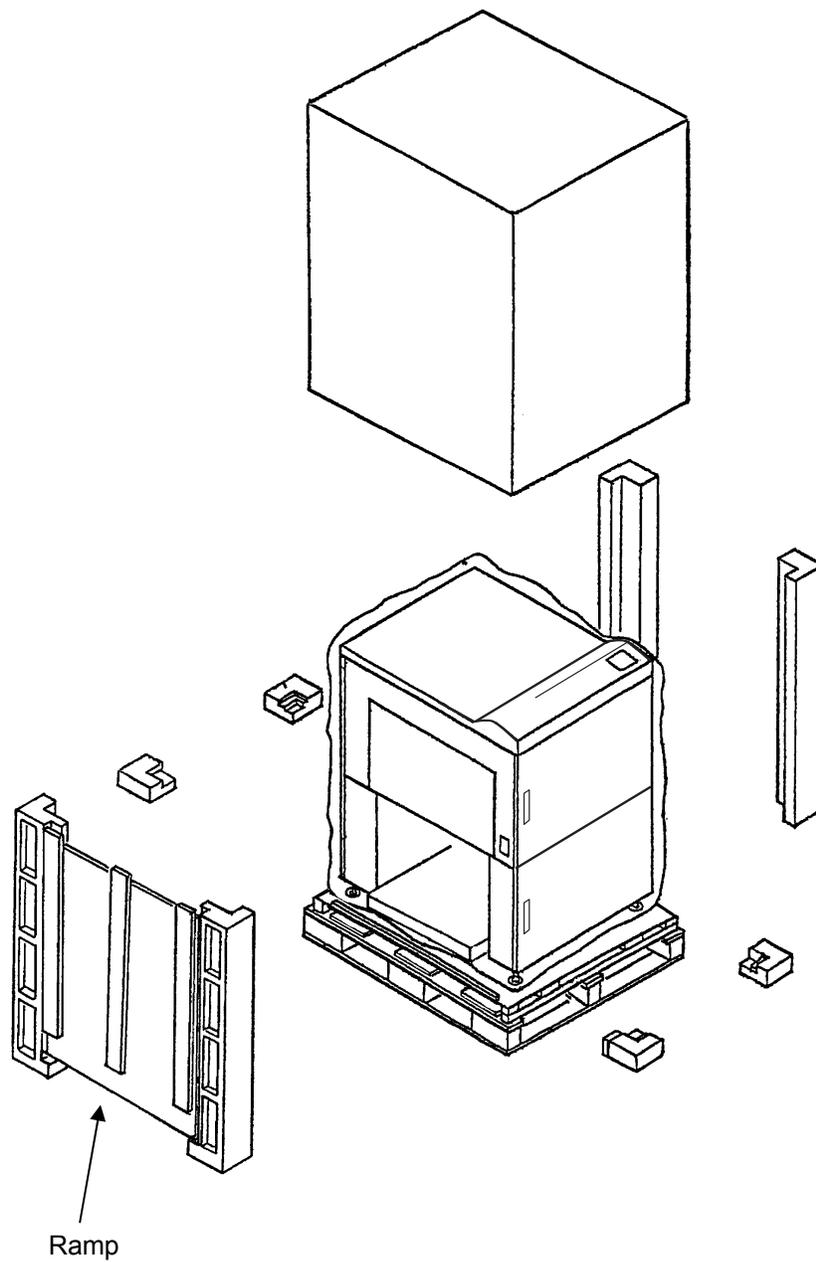

Figure 2-2
3. Lift the outer carton as shown in Figure 2-2 until the carton is clear of the printer.